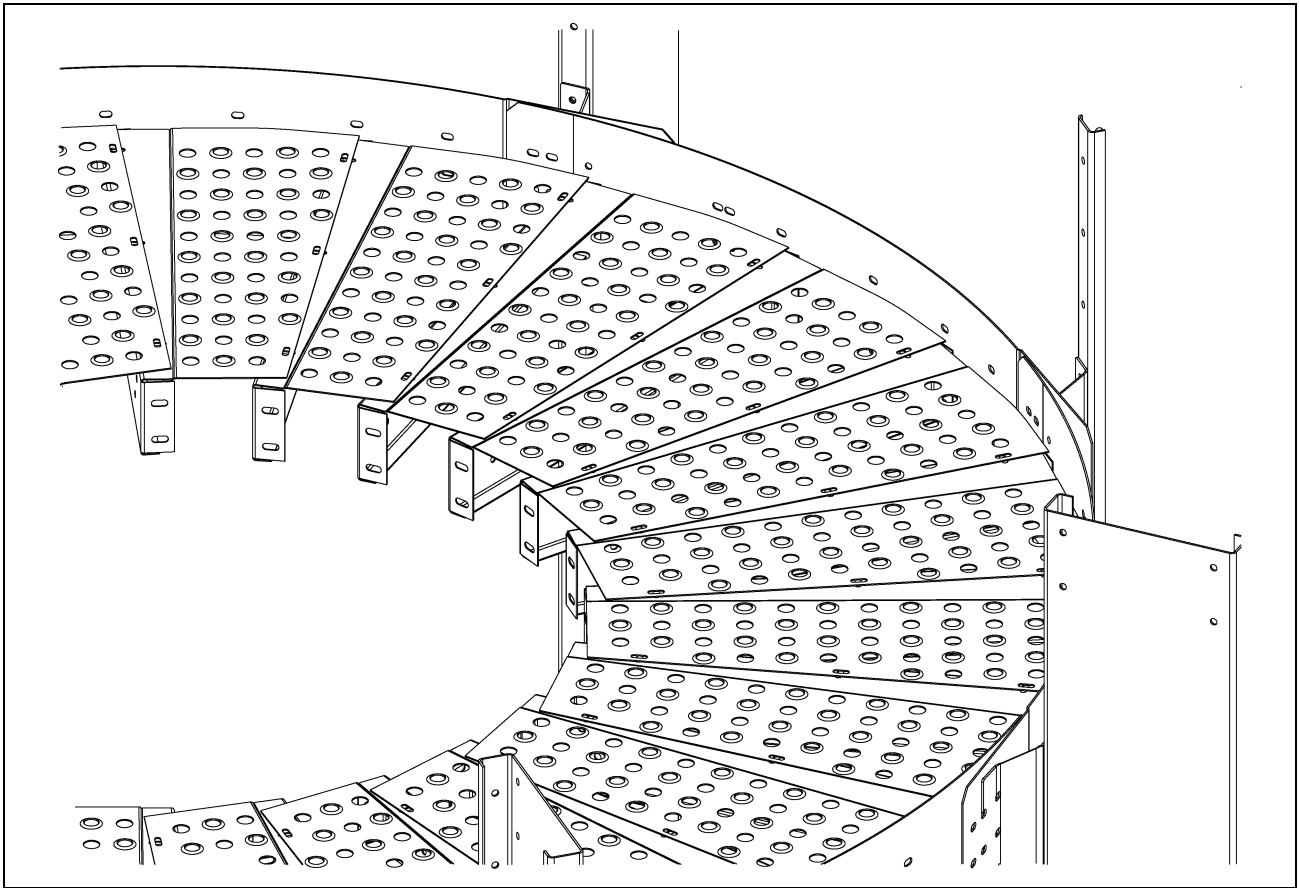

Figure 5G
2. Install all the planks (GT1-2033) continuously around the dryer. (See Figure 5G.)